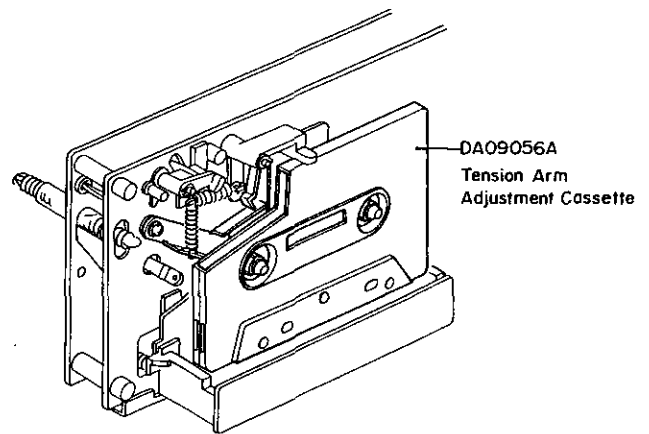
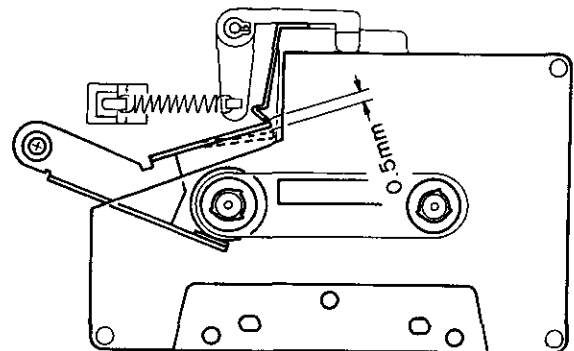

Fig. 4.13
Fig. 4.14
Refer to Figs. 4.13 – 4.16.
- (1) Load a Tension Arm Adjustment Cassette (DA09056A) in the N-700ZXE referring to Fig. 4.13.
- (2) Set the N-700ZXE in Play mode.
- (3) Bend the Back Tension Arm with pliers so that the gap between the Cassette Holding Spring assembled on the Head Base Ass'y and the Back Tension Arm becomes 0.5 mm as shown in Fig. 4.14. Do not bend the top of the Back Tension Arm.
- (4) Set the N-700ZXE in Stop mode, and remove the Tension Arm Adjustment Cassette (DA09056A), then set the N-700ZXE in Cue mode.